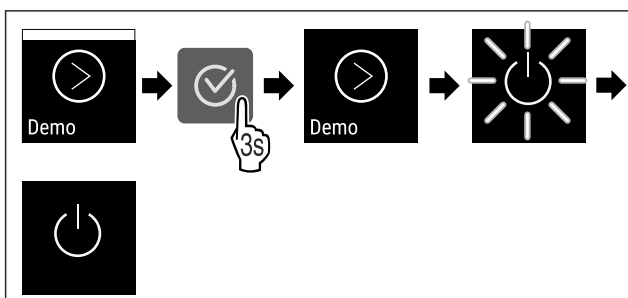

Fig. 92
- Complete steps (see Fig. 92) .